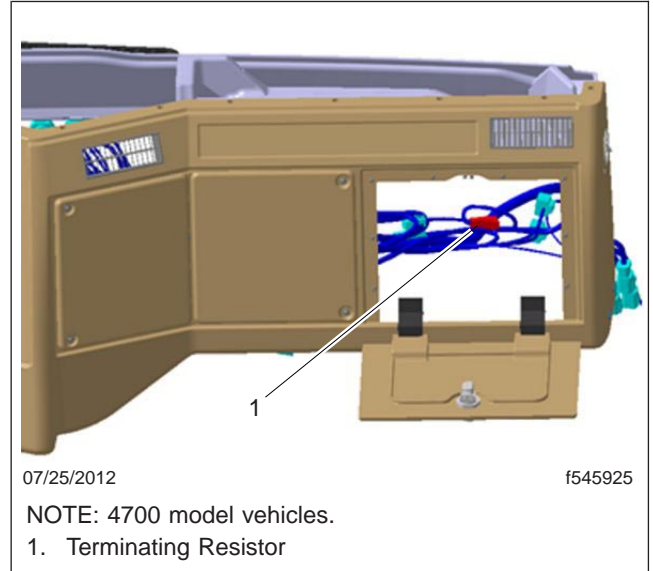

Fig. 6, Terminating Resistor Located Behind the Glove Box
- On 4700 models, the terminating resistor is located behind the glove box. See Fig. 6.